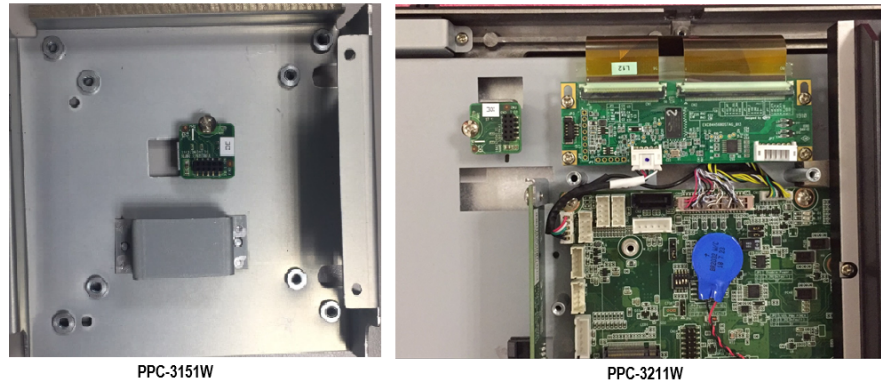

Figure 2.29
1. Refer to Section 2.3 to open the rear cover and remove the reinforcement plate. Remove the TPM card (96923260J0E) from the TPM module and affix it to the back of the reinforcement plate (see Figure 2.29).